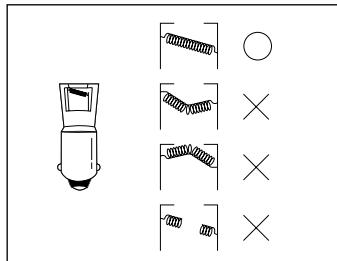

Fig. 14
- **BATTERIES** - **2 "C"** cell batteries are located at the rear of the heater. Replace with new batteries. (Fig. 14)